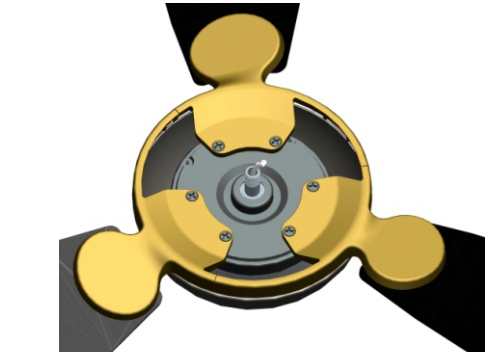

Fig 2.2
- Install the other blade arms with installed blades onto the corresponding mounting holes of the motor assembly, as shown in Fig 2.2.